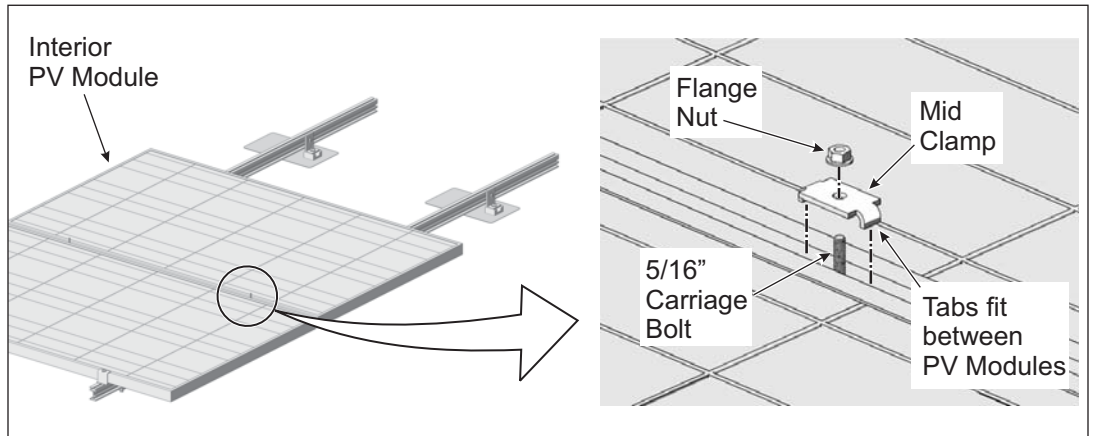

Figure 3-6: Inserting Mid Clamps
- E. Install one Mid Clamp on each of the 5/16" bolts that are between each of the interior PV Modules. Be sure that the tabs of the Mid Clamp rests between the two Modules. Secure each of the Mid Clamps with a 5/16" flange nut. **Torque Mid Clamps to 14-16 ft.-lbs.** (See Figure 3-6)